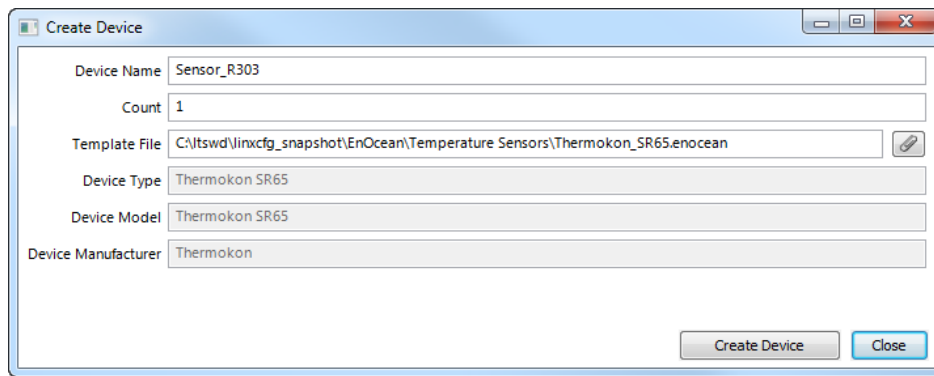

Figure 310: EnOcean device creation dialog
3. In the **Create Device** dialog enter a Device Name and a Count of devices to be created as shown in Figure 310.